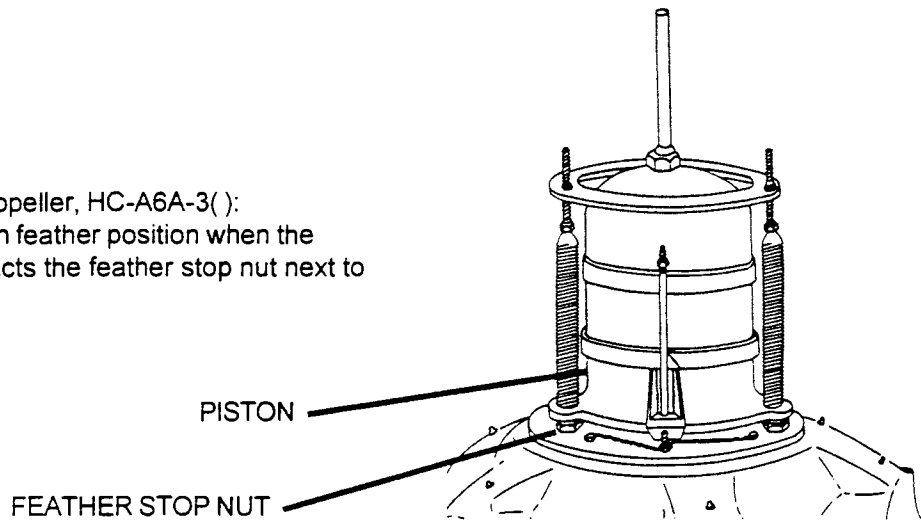

FIGURE 2.
- (2) With propeller blades in feather position, visually check feather stop nut to be seated, see Figure 2.
- (3) If noise indicates a loose part (broken set screw) or if the propeller blades do not go all the way into feather, remove propeller and send to a propeller repair station for disassembly and inspection for a possible broken preload plate set screw.